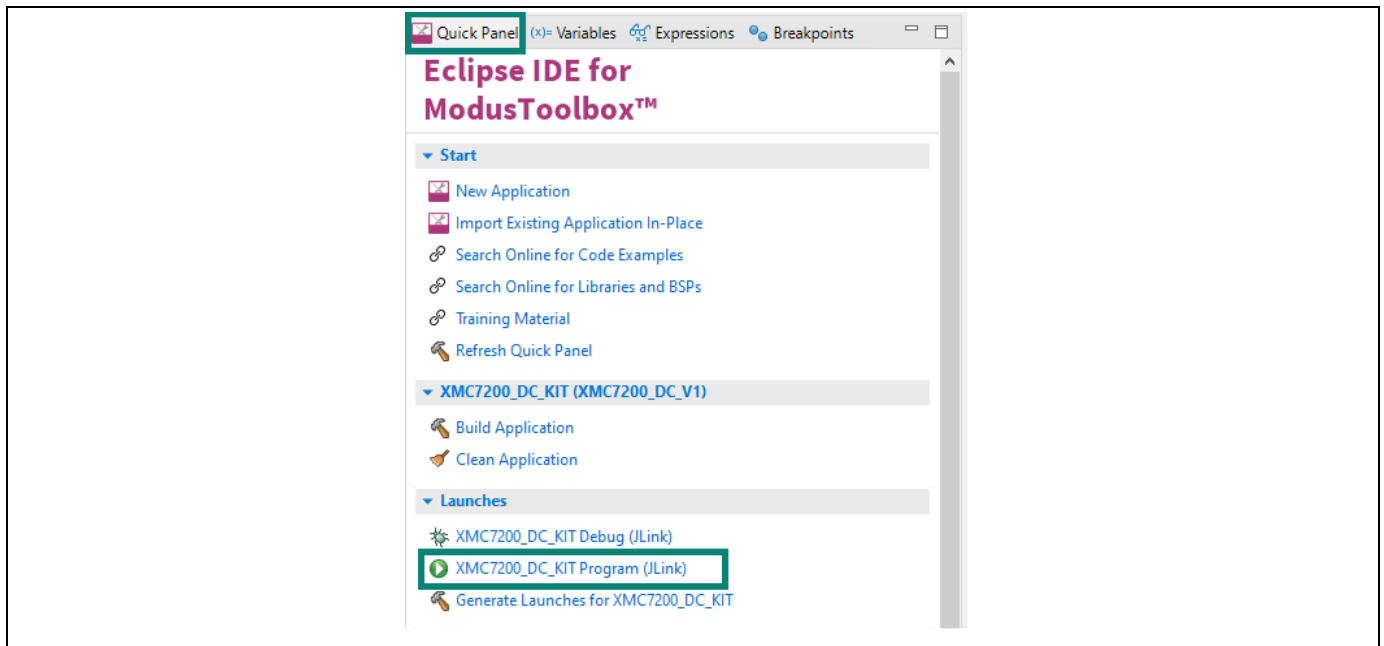

Figure 12 Programming in the ModusToolbox™ software
4. To build and program a XMC7200D application, in the Project Explorer, select **<App_Name>** project. In the Quick Panel, scroll to the Launches section and click the **<App_Name> Program (JLink)** configuration, as shown in Figure 12.